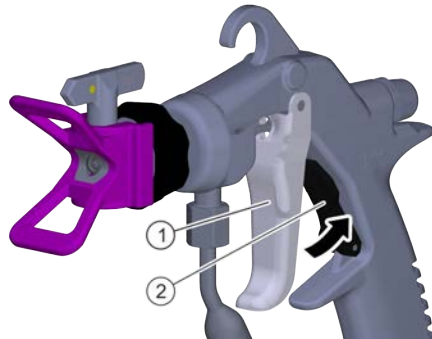

Fig. 6: Painting
5. Release trigger (1, Fig. 6) after ending the painting process.
7. Swivel safety lever (2, Fig. 6) downwards after the painting process is over.